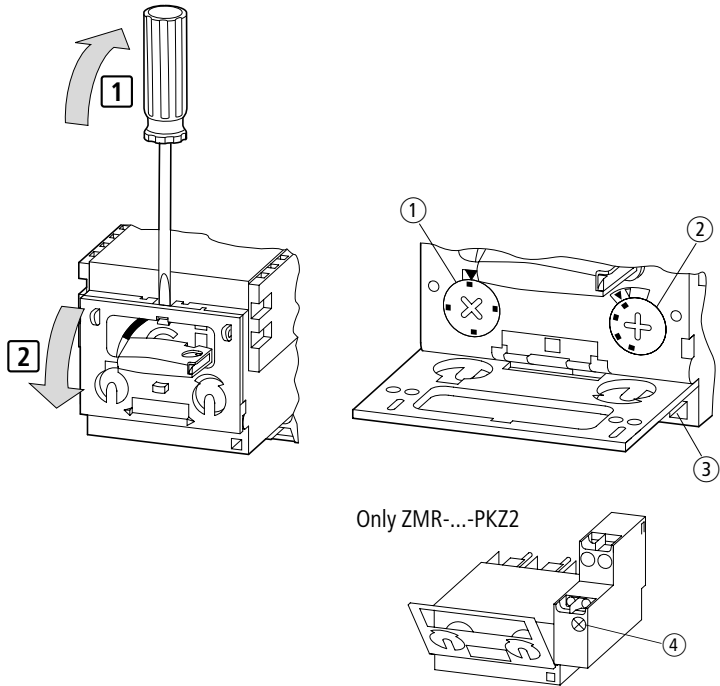

Figure 1: PKZ2 motor-protective circuit-breakers
The rated motor current is set on the PKZ2 units by means of the current dial ① (→ fig. 1, Page 28).
Proper functioning of the circuit-breaker can be verified by means of an additional testing feature ② (→ fig. 1, Page 28).